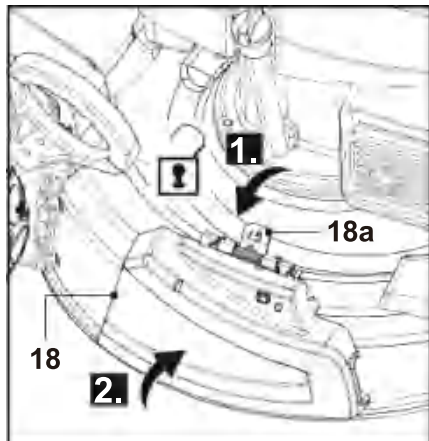

Fig. 16
2. Turn the locking buckle (18a) downward and hold to disengage it (Fig. 16, step 1).
3. Open the side deflector guard (18) and hold it in position (Fig. 16, step 2) .